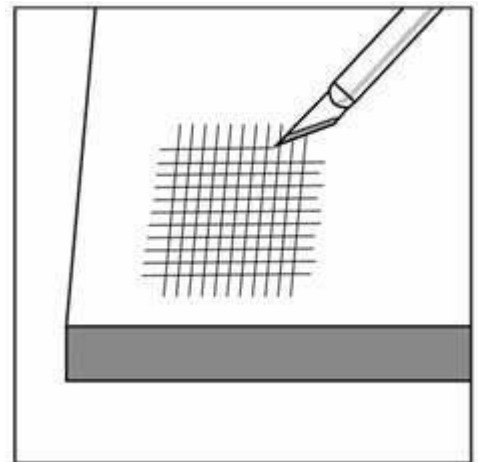

Figure 4d
2. Using a knife with a replaceable blade, make 11 parallel cuts $\frac{1}{16}$ " apart. At a 90° angle to the first set of 11 cuts and crossing them, make a second set of 11 parallel cuts, also $\frac{1}{16}$ " apart (Figure 4d). The purpose of the cuts is to break the film plane of the paint.